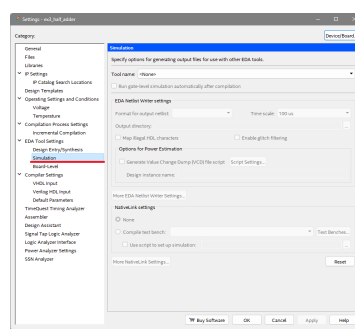

Figure 17: Click "Simulation"
8. Click "Simulation" in "Settings" window. (Figure 17)